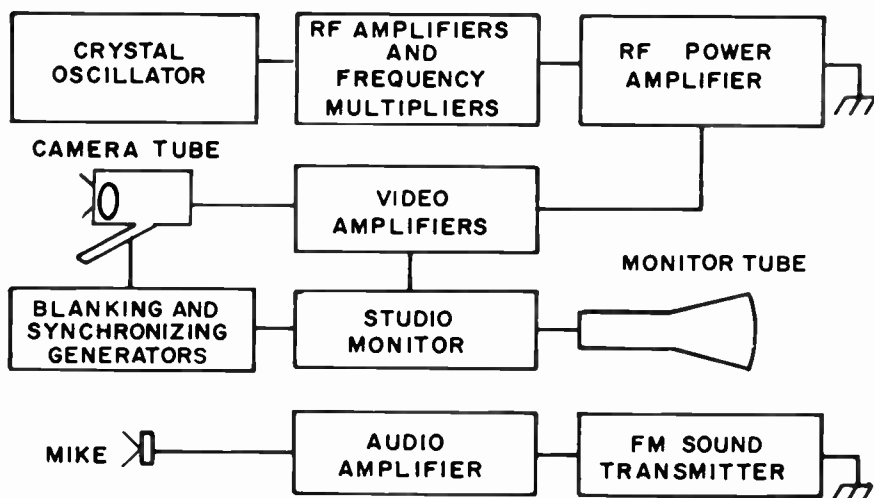
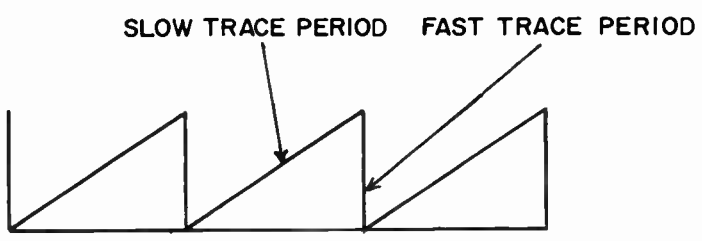

FIG. 20-1. BLOCK DIAGRAM OF A BASIC BLACK AND WHITE TELEVISION TRANSMITTER.
FIG. 20-5. A SAWTOOTH WAVE.
Fig. 20-1 illustrates a block diagram of a basic black and white television transmitter. Its operation is as follows:
The block labeled "synchronizing generators, etc." in Fig. 20-1, contains two multivibrator oscillators, in addition to other circuits. One generates a saw-tooth wave (see Fig. 20-5) that is fed to the horizontal deflection coils that are present around the neck of the camera tube. The saw-tooth wave rises gradually to a peak, then falls sharply. When this type of current is applied to the horizontal deflection coils, the coil's magnetic field causes the beam to move slowly across from left to right (the "trace" period) and rapidly back to the left (the "re-trace" period). The frequency of the saw-tooth wave is 15,750 Hz. We arrive at this by multiplying the total number of horizontal lines (525) by the number of frames per second (30).  $525 \times 30 = 15,750$ .